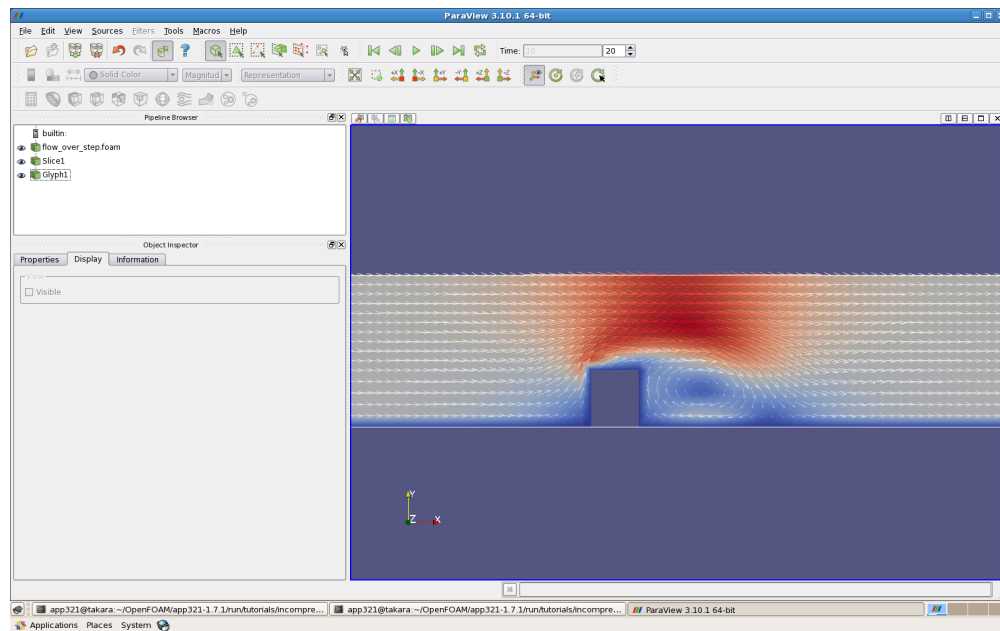

Figure 4: Velocity contour and vector plot on the center slice of the flow over step case in ParaView
- Plot velocity vector on the center slice and adjust your view to be front. Zoom in to see the recirculation zone behind the step (as in Figure 4).